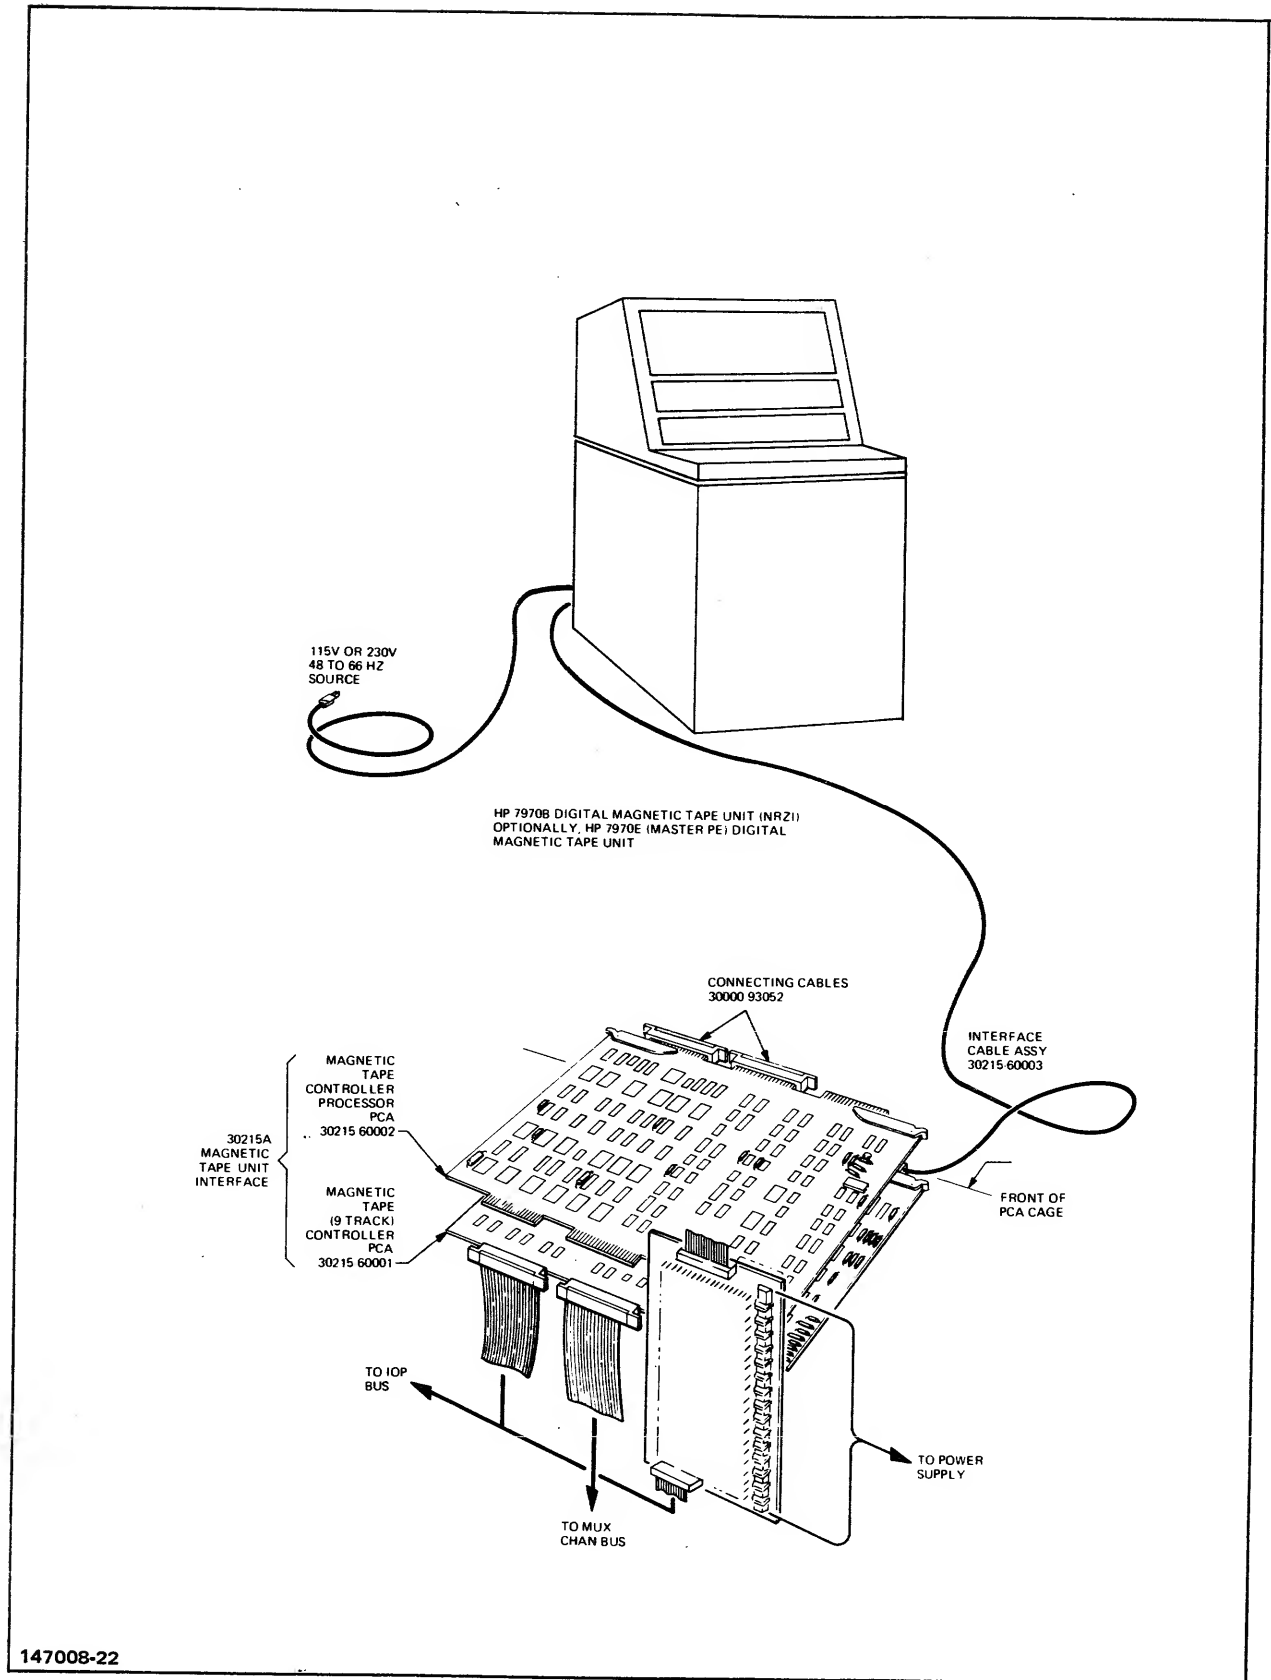

Figure 3-15. Tape Unit Interface
One Magnetic Tape Unit Interface (Figure 3-15) can control up to four tape drive units. An additional controller can be included in a system if it is necessary to divide the control of two or more units. Each controller consists of the following:
1. The interface cable assembly is separately shipped and must be located. At the CPU bay, route the 50-pin connector end of the cable up the back of the cabinet and through the cable gap to the vicinity the Magnetic Tape Controller PCA, part no. 30215-60006. Connect the cable to PCA connector J1 as shown in Figure 3-15.